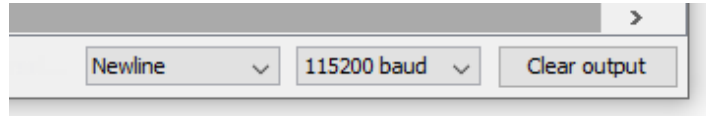

Figure 14: Setting up the Serial Monitor
4. When you successfully uploaded the example sketch, open the Serial Monitor of the Arduino IDE and select the settings of the Serial Monitor, as shown below in **Figure 14**. Set it into "Newline" and set the baud rate correctly.